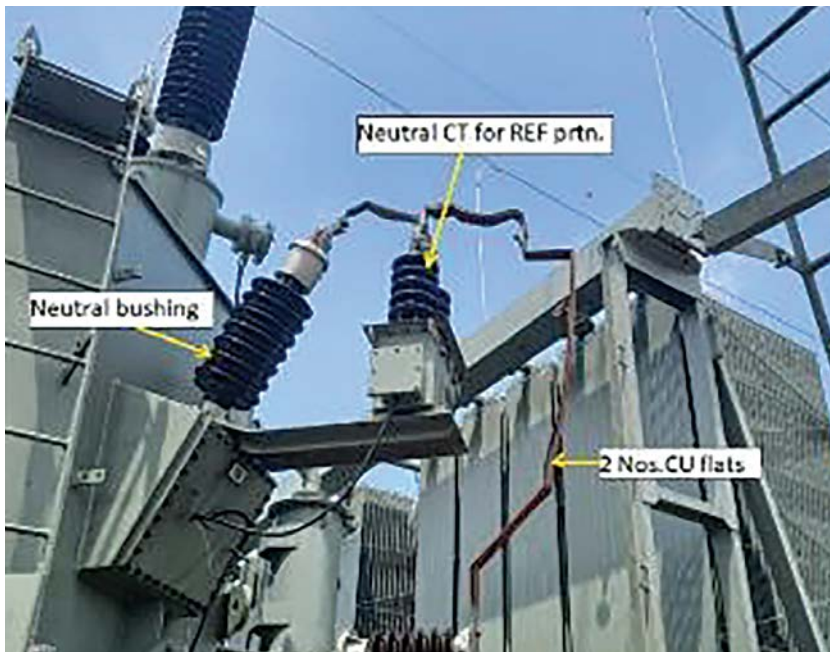

Figure 16A. External neutral CT for REF protection
- (a) Copper flats of suitable size must run through the neutral CT where bushing CT is not provided in the neutral bushing (for REF protection) on the support insulators. Connect them to the earth pit through two ACSR/AAA conductors clamped with a bimetallic pad to the copper flat, as shown in Figures 16A and 16B.